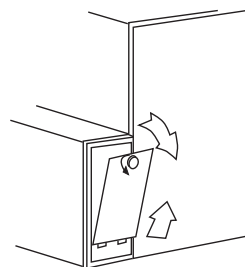
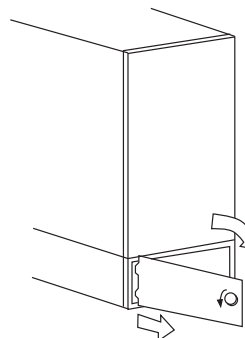

Fig. 13 – Removing Side Filter Cabinet Door
Fig. 14 – Removing Bottom Filter Cabinet Door
- Remove filter cabinet door, see Fig. 13 and Fig. 14